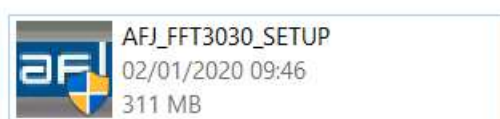

Fig. C.8 – Setup file for client software
STEP 2 – Insert USB-stick in an USB port, from Windows Explorer, locate the “FFT 3010 Receiver (FFT 3030 Receiver)/Operating SW/AFJ_FFT 3010ClientSetup_XYZ_20XY (AFJ_FFT 3030ClientSetup_XYZ_20XY)” folder on your AFJ USB-stick and double click on “Setup” file (Fig. C.8).